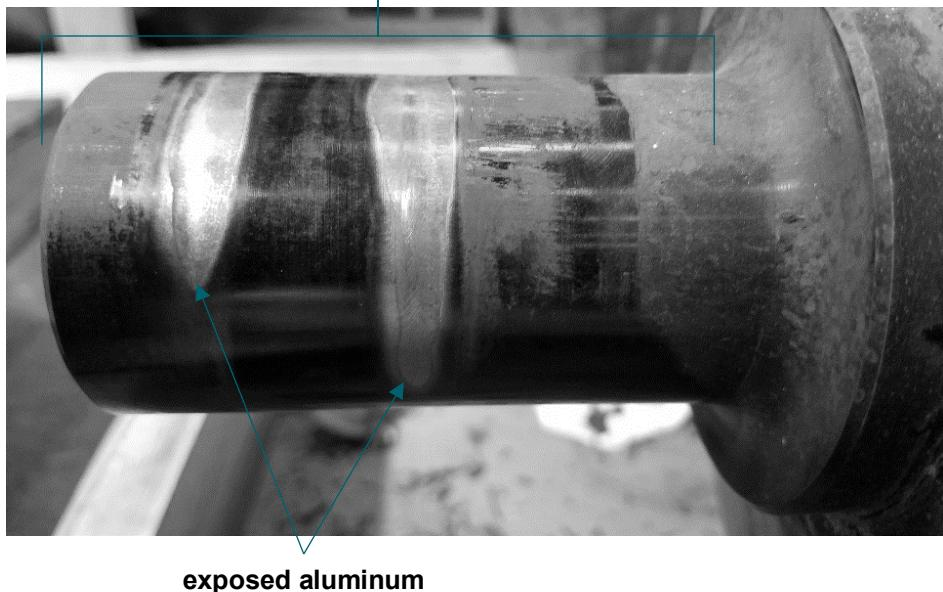

FIGURE 16. Indicators of sliding end cylinder boss wear.
- exposed aluminum **FIGURE 16**
- variation in diameter along the length of the boss **FIGURE 16**